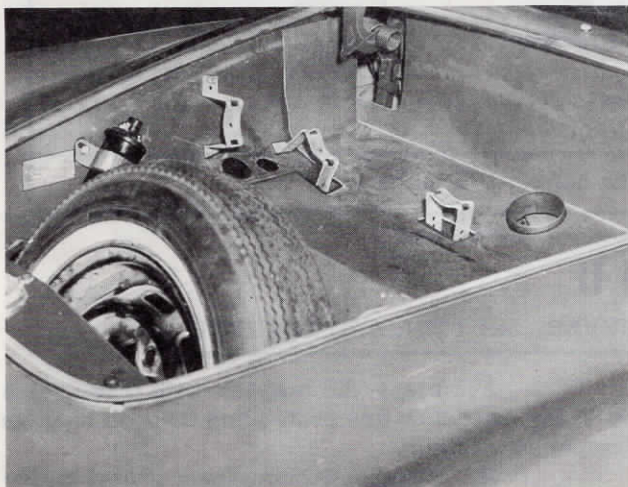

Figure 14 - Karmann Ghia 1961 through 1967
See Figures 14 through 18 for completed cover trim outlines in the following steps.
1. Refer to the following chart and Figures 14 through 18 to find the correct mounting brackets for the vehicle model. Brackets are stamped A-B-C etc.